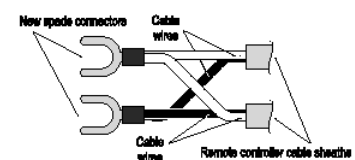

Fig.9
- Cut the spade connectors from two of the controller cables to be connected to the appliance (4 spade connectors should be cut off) and discard. Connect the wires from these two cables and terminate into two new spade connectors as shown in Fig.9. Spade connectors are supplied with the controllers.
- Cut the spade connectors from all four of the controller cables to be connected to the appliance (8 spade connectors should be cut off) and discard. Connect the wires of two cables and terminate into two new spade connectors as shown in Fig.9. Repeat this for the remaining two cables. Spade connectors are available from your local electrical component retailer.